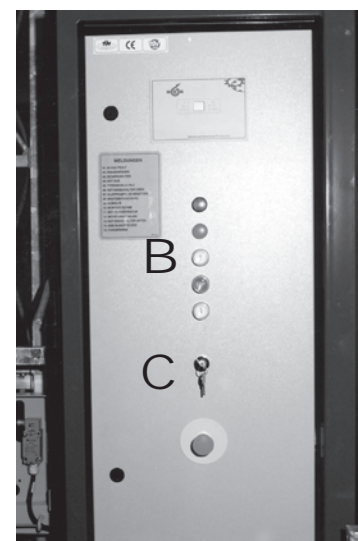

Fig.7-16 Raising the machine from the buffers
1. Turn the key switch (fig.7-16, C) into the position 'SERVICE I'.
2. Press the button 'UP' (fig.7-16, B).